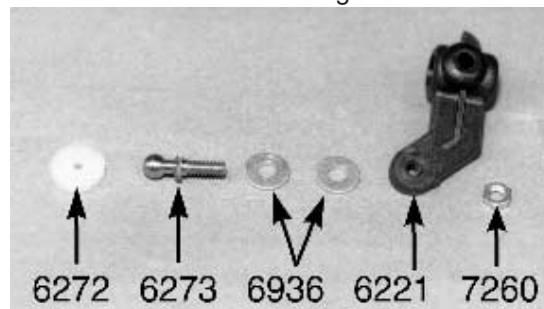

Fig. 3
Figs. 3 & 4 (1) Go to bag #7-1 again and remove the two #6221 nylon steering blocks. At this point there is no right hand. or left hand block. (2) From bag #6-14 remove two of the #6273 long steel ball ends, two #6272 ball end dust covers, two #7260 4-40 small pattern thin plain nuts, and four #6936 #4 aluminum flat washers. (3) Place two washers onto each ball thread and then screw one ball end into each steering block as shown and then thread on the plain nut from the back side. (4) Take two more of the #6272 dust covers and install them over the two balls. Make sure the balls are mounted on opposite sides of the steering blocks so that they both will be on top of the steering blocks when mounted on the car. Once you have installed the ball ends on the steering blocks there will then be a right and left steering block.